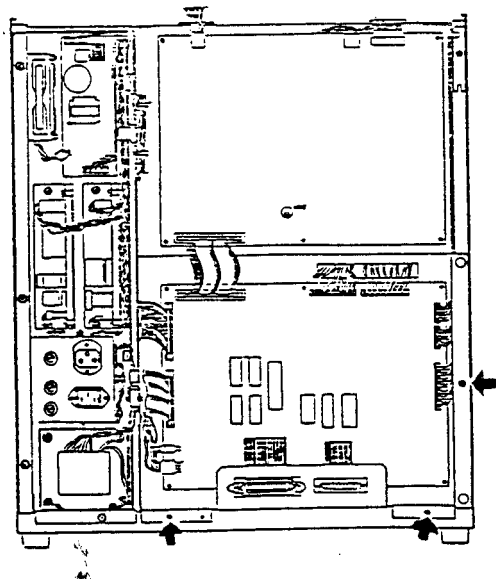

Figure 6-0-7 Removing 3 screws and washers
- C. If any maintenance for hydraulic or pneumatic system on rear side of the instrument is required, unscrew and remove three Phillips screws indicated by arrow in Figure 6-0-7.